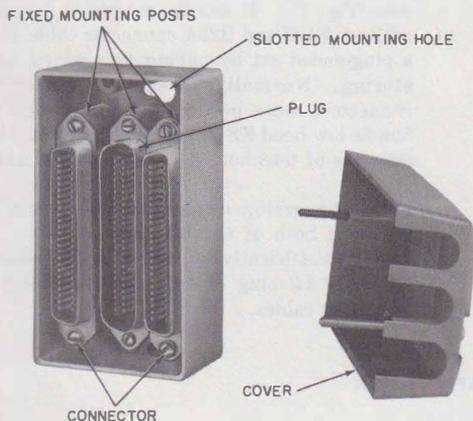
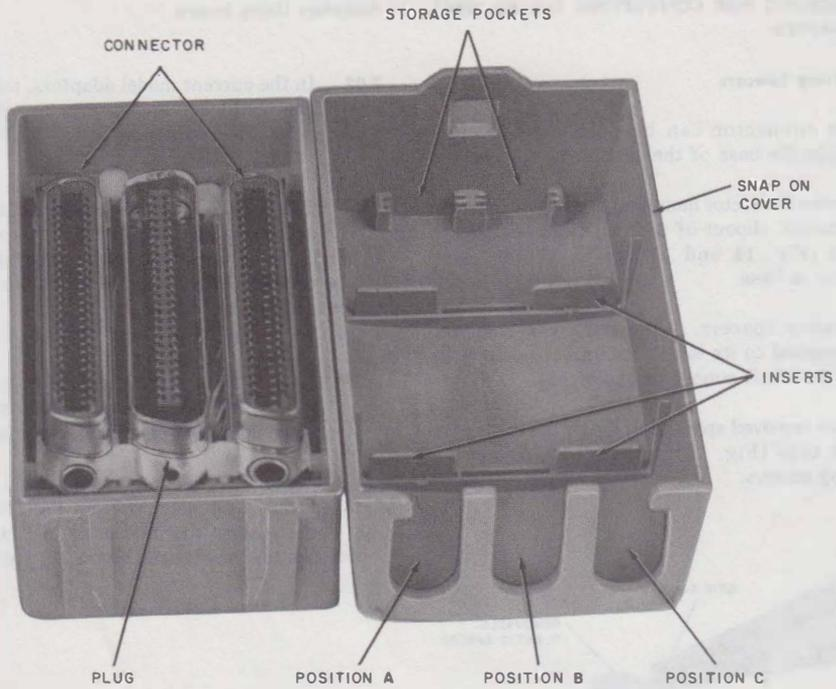

Fig. 13—KS-19252 Bridging Adapter, Nonconvertible
Fig. 17—KS-19252, List 1 3-Way Bridging Adapter (Current Model)
- The KS-19252 L1 is arranged for use with an A25B connector cable and two plug-ended sets (Fig. 17). It can be converted for use with an A25B and B25A connector cable plus a plug-ended set by pulling two inserts and storing. Normally, in early models, the connectors were positioned high enough to handle low-hood KS-16689 L1 plugs furnished on cords of telephone sets (Fig. 13 and 14).
- (1) The List 1 (C-P-C) adapter is arranged to accommodate two low hoods and one high hood. Four inserts are used and are placed in the outside pocket positions (A and C) of the cover. See Fig. 17.
- (2) To convert a List 1 adapter to accommodate two high hoods, remove the inserts from A or C position and place in cover storage pocket.
- (3) In any assembly where a high hood is used, the inserts are not used in that connector position and should remain in the storage pocket.